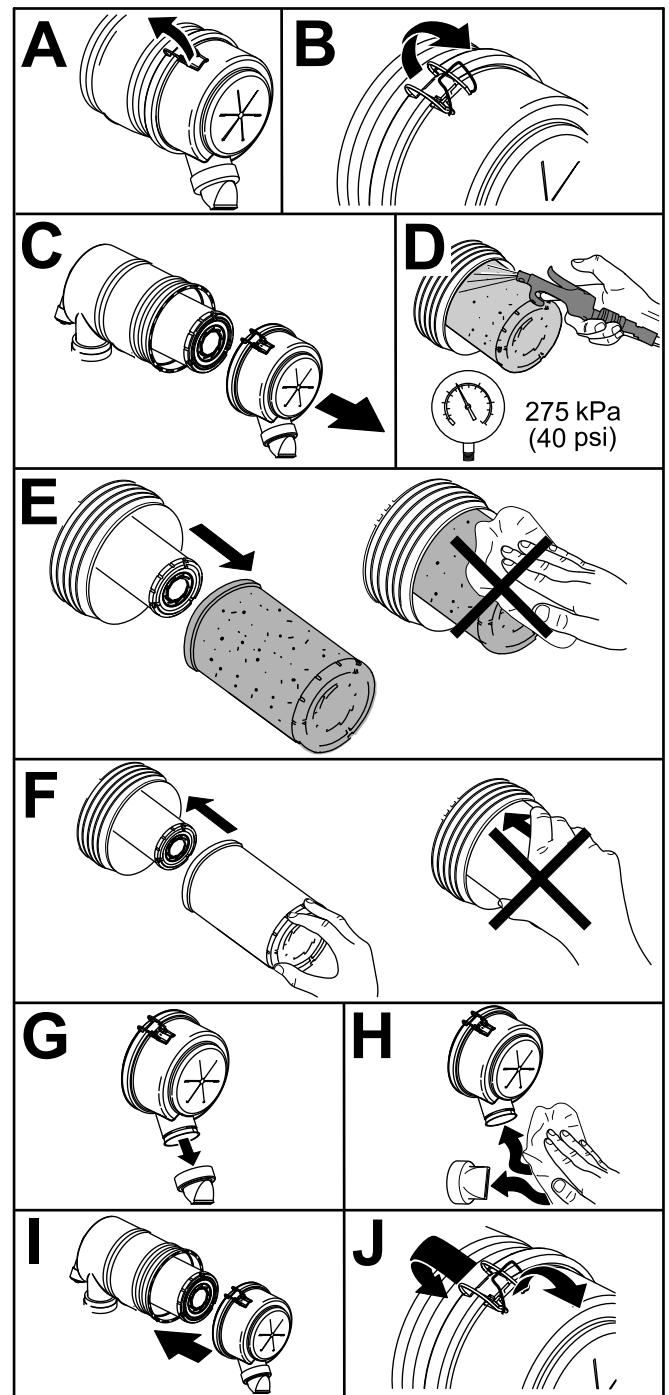

Figure 52
1. Replace the air filter element (Figure 52).